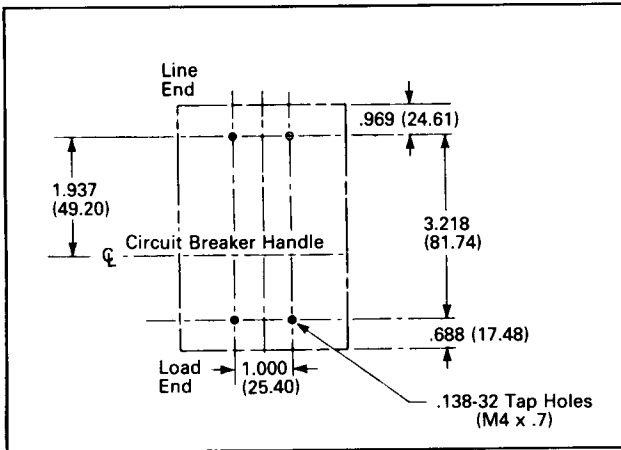

Fig. 2-1. GMCP Mounting Bolt Drilling Plan
- a. For individual mounting panels, make sure that mounting panel is predrilled using drilling plan (Fig. 2-1).